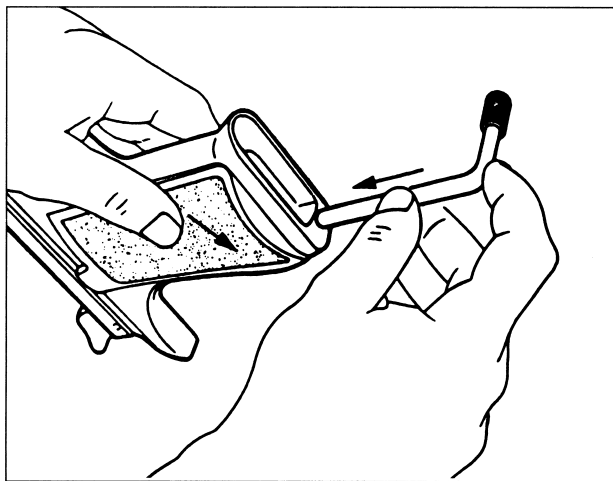

fig. 20 Mark I/VII/XIX
1. Lean the frame on the hammer and horn. Push the grip pin in with the combination tool through the small hole in the bottom of the grip and push the grip cover downward to release it (fig. 20).